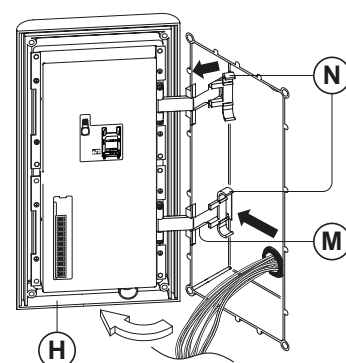

Fig. 65
8. Next open the module support frame (H) (to allow for easy access to the hinge mounts (M)) and clip the hinge locks (N) to the hinge mounts (M), following the guide arrows, as shown in **Fig.65**;